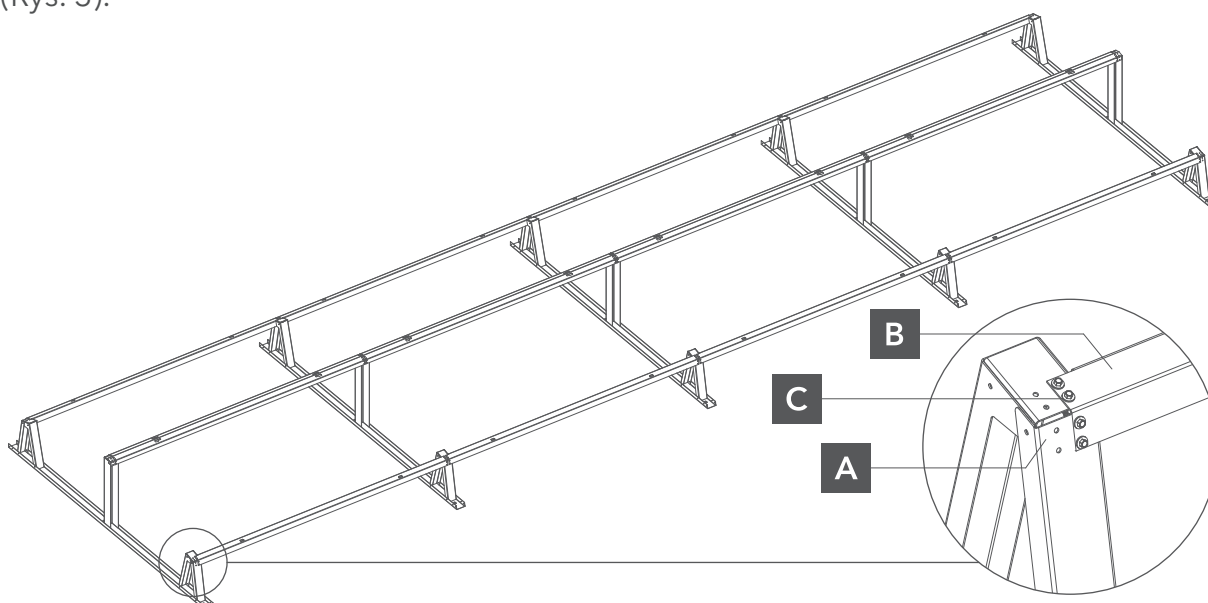

Fig. 3. attachment of the holder to the mounting triangle.
- 2 An SBR rubber should be placed below the lower base of the mounting triangle. Then the angle should be adjusted to the mounting triangle and fixed with self-tapping screws (Rys. 3).
Fig. 3 shows the attachment of the holder to the mounting triangle
- 4** An SBR rubber should be placed below the lower base of the mounting triangle. Then the angle should be adjusted to the mounting triangle and fixed with self-tapping screws (Rys. 3).